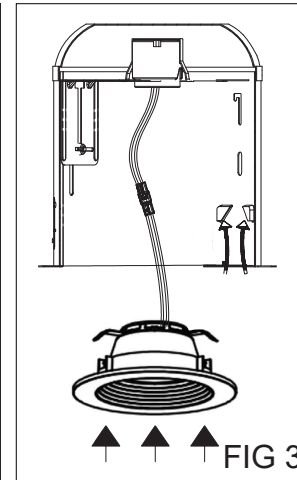

FIG 3
4. Tuck all wires into the can and carefully push the retrofit trim into can To provide enough room in shallow cans carefully position socket adapter wiring to side of the LED driver prior to inserting the retrofit trim into the can. (FIG. 3)